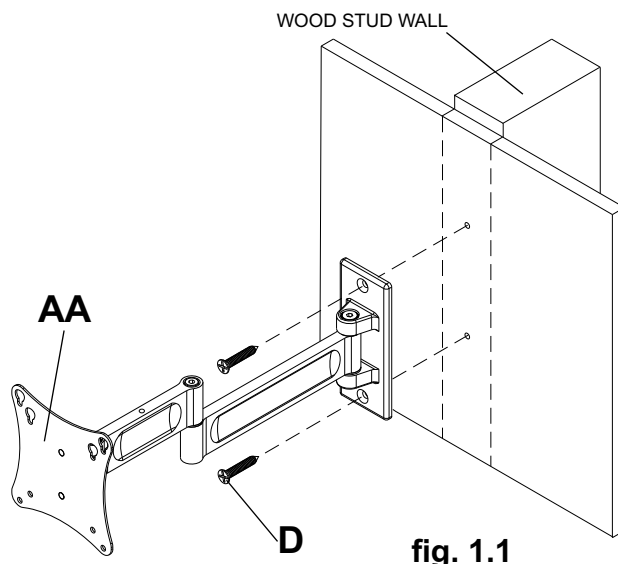

fig. 1.1
- Using a stud finder, locate and mark the edges of the wood stud used in mounting this product. Use of an edge to edge stud finder is highly recommended. Use a level to draw a vertical line down the center of the stud. Use wall plate as template to mark center of holes along the vertical line. Drill two 5/32" (4 mm) dia. holes 2.5" (64 mm) deep. Attach wall arm assembly (**AA**) to wall using two #14 x 2.5" flat head wood screws (**D**) as shown in figure 1.1.